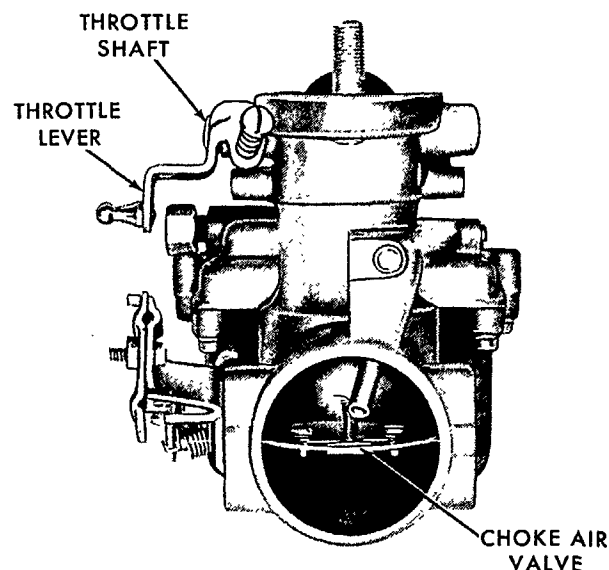

Figure 13
13. Note the location of the choke air valve for re-assembly purposes, Figure 13. Remove the choke plate retaining screws and the choke plate.
6. Install the throttle shaft into the carburetor body, from the left-hand to the right-hand side, as shown in Figure 13.